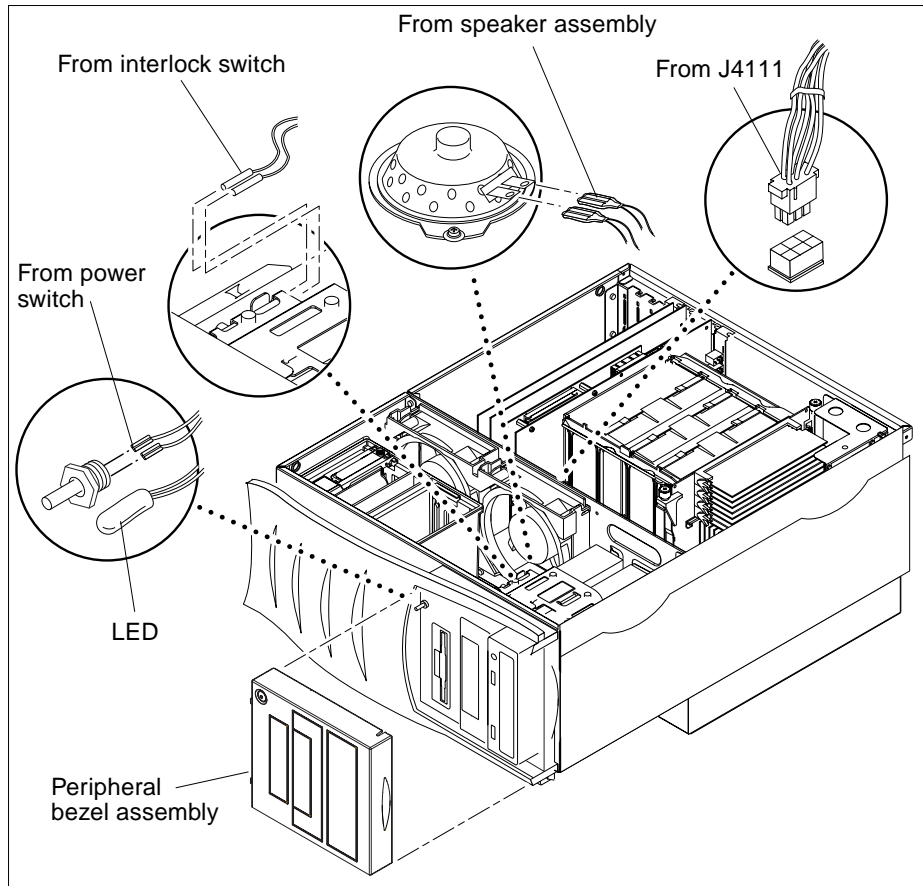

FIGURE 7-7 Removing and Replacing the Combined Cable Assembly
5. Disconnect the combined cable assembly as follows (FIGURE 7-7):
1. Position the combined cable assembly into the chassis (FIGURE 7-7).